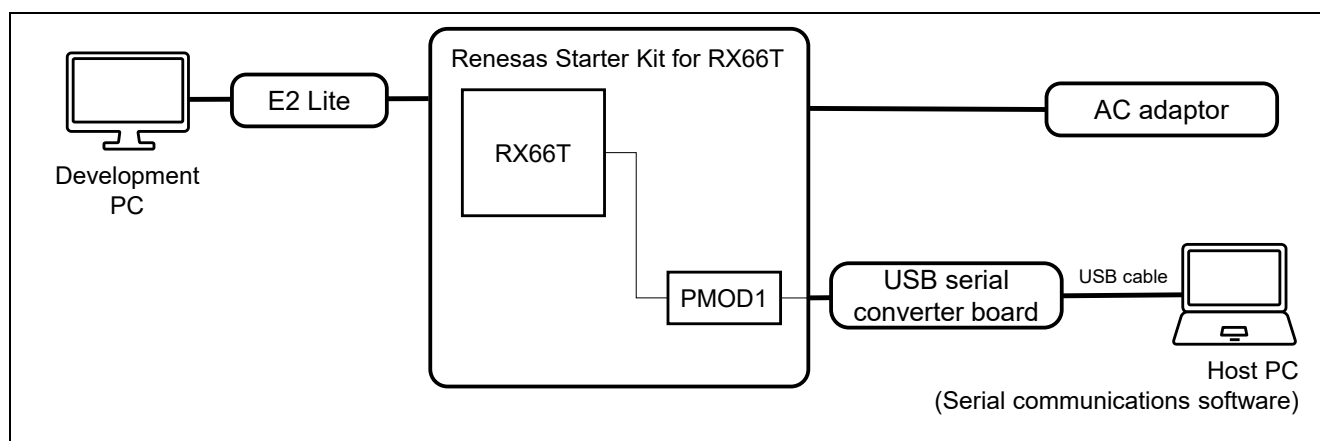

Figure 4.7 RSK RX66T Device Connection Diagram
1. Connect the USB port of the PC to the USB serial converter board and the USB serial converter board to the PMOD1 connector of the RSK board as shown in Figure 4.7, RSK RX66T Device Connection Diagram.